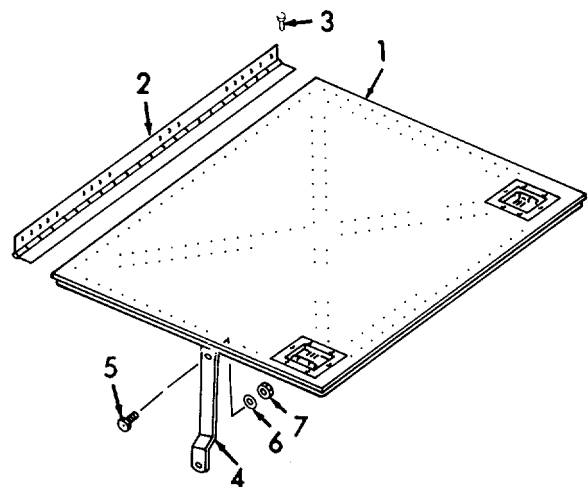

Figure 6-13. Side Door, Installation.
e. *Installation (Refer to Figure 6-13).*
- (1) Place door (1) into place in closed position.
- (2) Secure hinge (2) to cabinet with rivets (3) using riveting tool kit.
- (3) Place stay (4) into position.
- (4) Install screw (5), washer (6), and nut (7) to secure stay (4) to door (1).
- (5) Repeat steps (3) and (4) above for other stay.